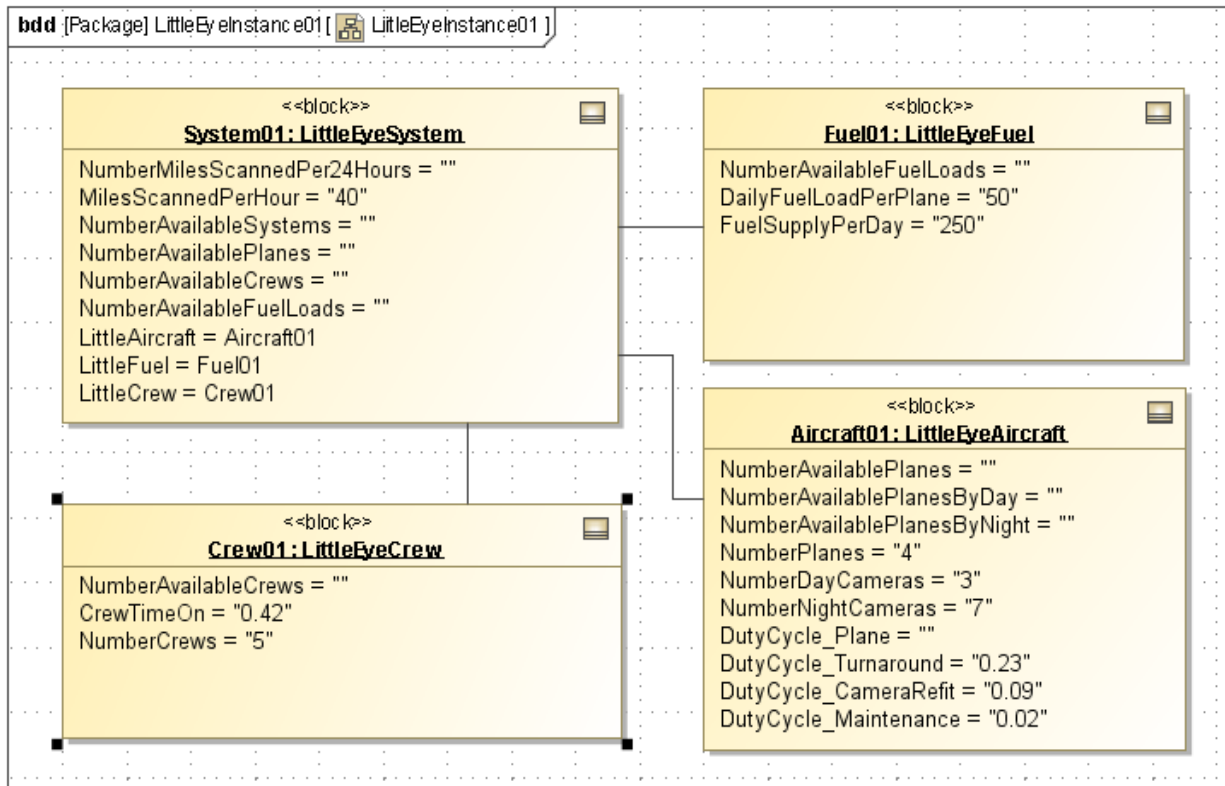

Figure 4.9 Creating an Instance of the LittleEye model
9. Create an instance of the model. The steps are similar to previous tutorials, however, some short-cuts are used. For example, the values of the givens are assigned in step d below and most causality tags are set automatically using the “Assign default causalities” utility in step f. Figure 4.9 is an example of an instance. The values for several of the givens are taken from Figure 4.1. Others, such as the Number of Planes, are user-set trial values, which will be varied during the solving operation.